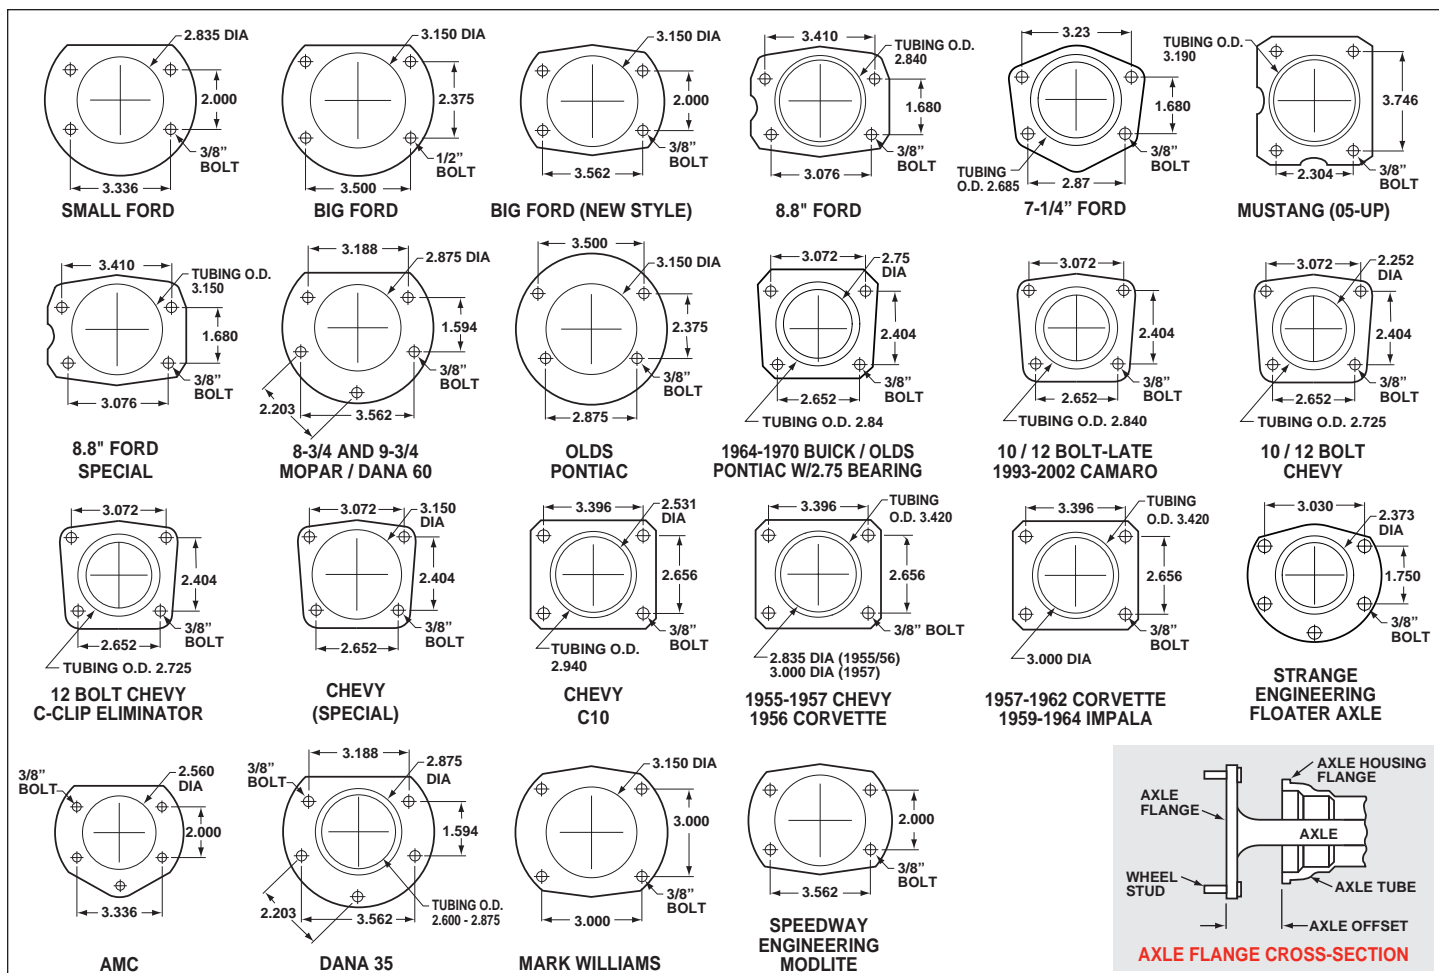

Figure 6. Rear Housing Flange Chart and Axle Flange / Offset Cross-Section
- Make sure this is the correct kit to match the axle housing flange, not necessarily the rear end make. Many times aftermarket manufacturers put a different make of flange on the stock rear end housing (see Figure 6). Example; Big Ford rear ends with Olds-Pontiac flanges, therefore, an Olds-Pontiac rear disc brake kit would be the correct kit to order.
- Bearing outside diameter (see Figure 6).
- Housing flange mounting pattern to pattern in new bracket (see Figure 6).
- Offset dimension from wheel side of axle flange to wheel side of housing flange (see Figure 6, lower right hand corner). This dimension is critical to ensure proper alignment of the rotor to the caliper, and should match offset given in the kit description on the cover page.